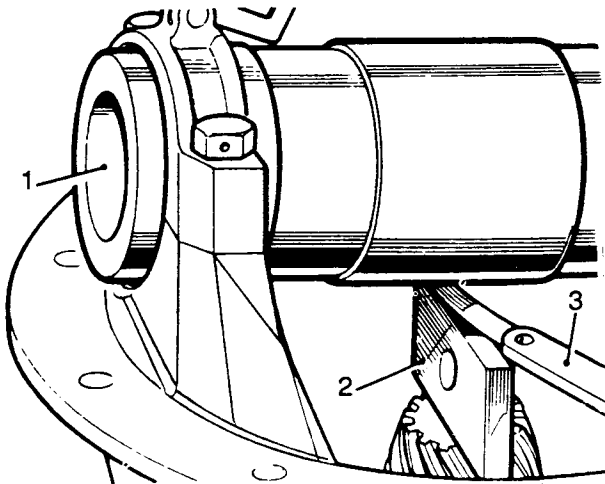

Fig J2.56
- (1) Refer to Fig J2.56. Locate pinion height gauge 605004 (1) into the pinion housing and secure with the bearing caps.
- (2) Place the slip gauge (2) onto the pinion face and hold firmly in place.
- (3) Using a feeler gauge (3) measure the height between the height gauge and the slip gauge. A clearance of 0,28 mm to 0,30 mm must be obtained.